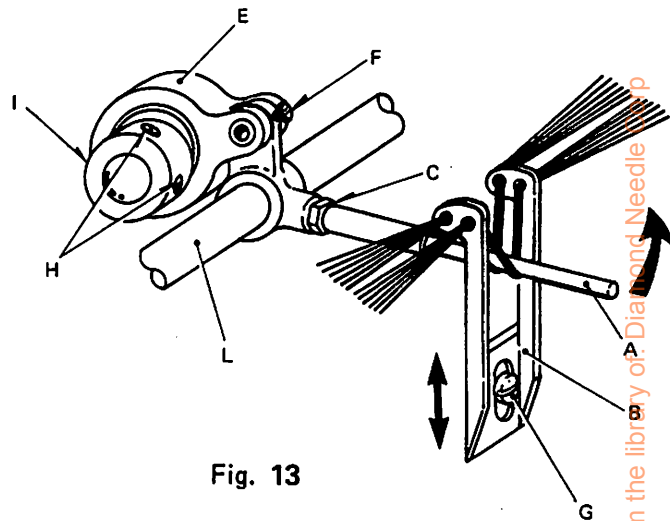

Fig. 13
- 1) Loosen the retainer eccentric screw H in Fig. 13, and then, tighten this crew temporarily.
- 2) Rotate the pulley and adjust the looper retainer. Turn the retainer eccentric I in Fig. 13 to increase looper retainer speed, and clockwise to decrease speed.
- 3) For fine adjustment, loosen screw G in Fig. 13, and then, move the retainer thread eyelet up and down.